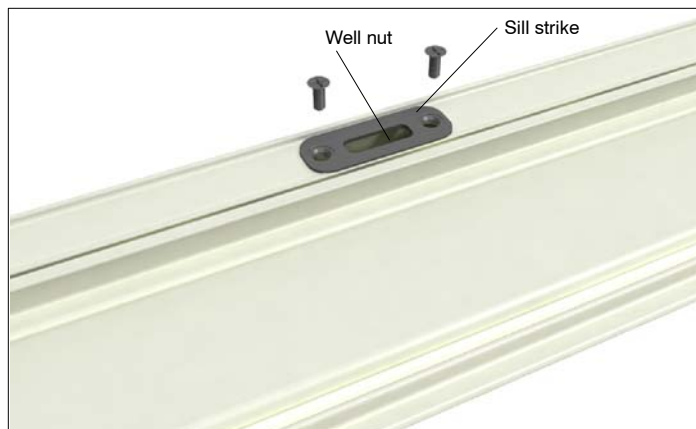

Figure 5
5. Remove the sill strike and well nut. Replace with the new wellnut, sill strike and screws. See figure 5.